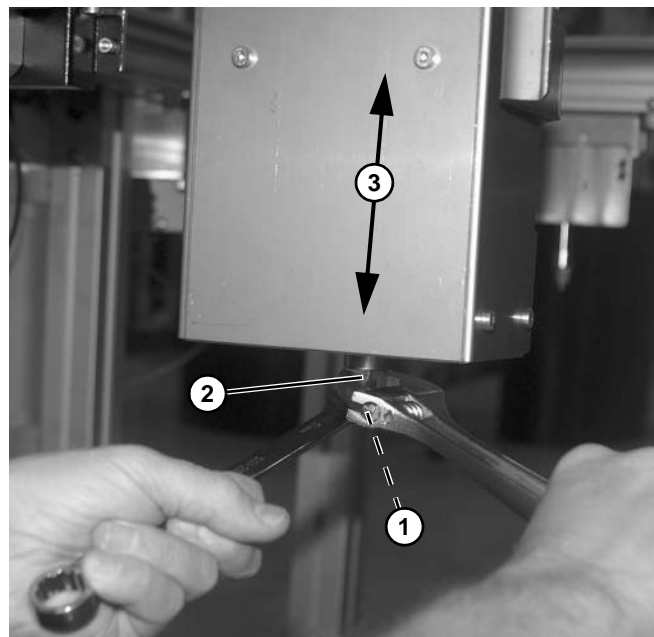

Figure 56
2. To adjust stroke, loosen jam nut (**Figure 56, item 1**) from large nut (**Figure 56, item 2**) on the bottom of cylinder shaft.
3. Turn large nut (**Figure 56, item 2**) clockwise or counterclockwise to raise or lower (**Figure 56, item 3**) pallet assembly as needed.